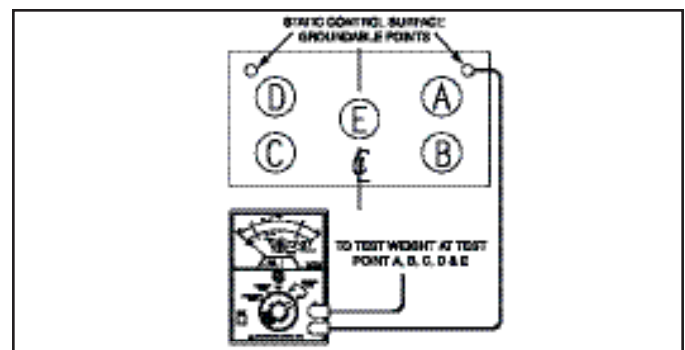

Figure 5. Qualification Tests of Installed Surfaces.
B. Set the SCS 701 Analog Surface Resistance Megohmmeter Kit on a table top or other stable surface and place a test weight at the desired test point as shown in Figure 5. Connect the test leads to the meter using the right angle banana plugs at the meter. Then connect one of the test leads to the test weight and the other to the ESD GROUND using one of the supplied clips.
[Measurement of resistance of the top surface to the groundable point of the static control surface (RTS-GP)]. GROUNDABLE POINT is the point at which the grounding conductor is connected to the static control surface; the GROUNDABLE POINT is most commonly a snap (mats), a bolt (laminate), or a strip of conductive foil tape (flooring). This QUALIFICATION measurement is similar to those described in the test description section and is used to verify the correct installation of the GROUNDABLE POINT by the manufacturer or by the user. While the test procedure is the same, the test setup is slightly different; see Figure 5.